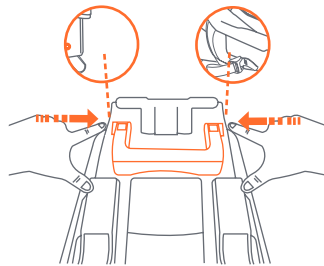

Fig. 53-2
- 2- Press elevation foot release buttons located on the side of the base (Fig. 53-2).